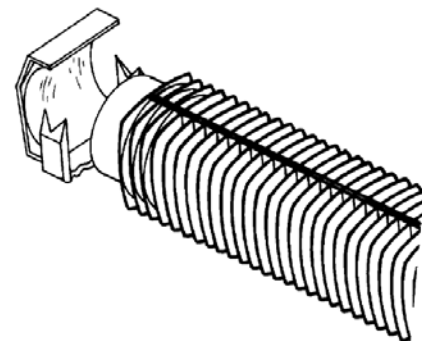

Figure 11. AE-897 Wide Aperture
33. **AE-897 Wide Aperture.** Used for heating solder termination sleeves and shrinking small-diameter tubing. Used on devices having a maximum outside diameter of 3/8 inch and a maximum length of 2 inches and has to be ordered separately (Figure 11).